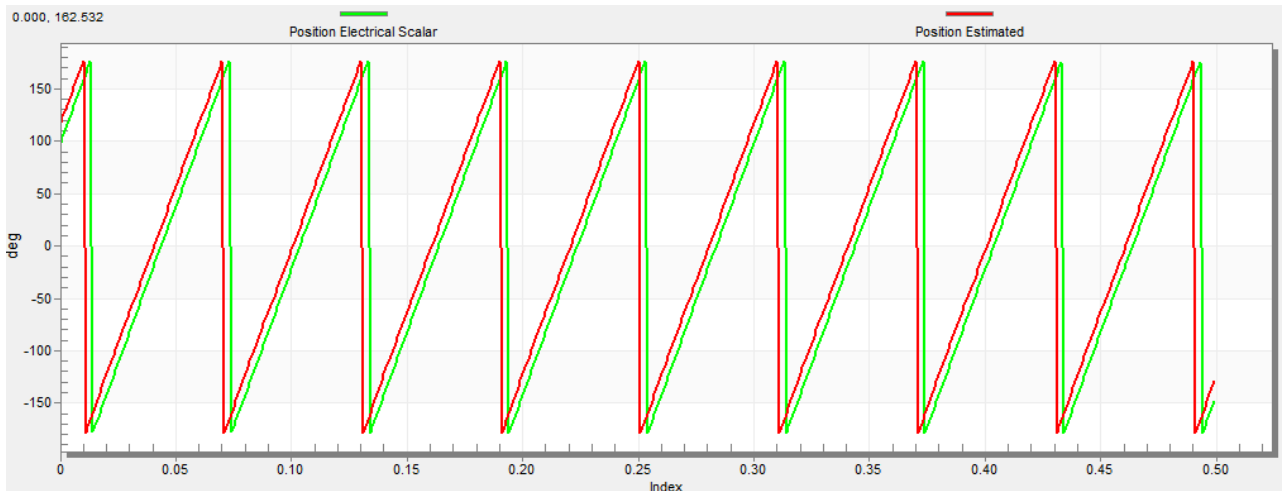

Figure 41. Generated and estimated positions
6. Select the “Position” recorder to check the observer functionality. The difference between the “Position Electrical Scalar” and the “Position Estimated” should be minimal (see Figure 41) for the Back-EMF position and speed observer to work properly. The position difference depends on the motor load. The higher the load, the bigger the difference between the positions due to the load angle.